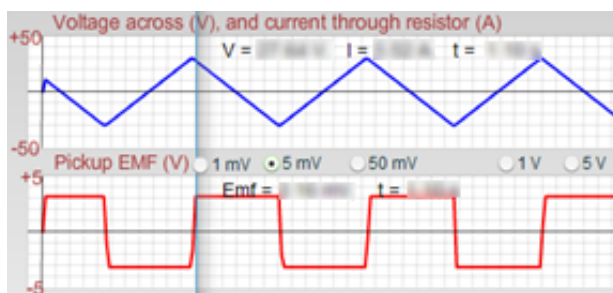

Figure 17: (repeated)
- 1 If you don't still have Figure 17 on your screen, create a new one.